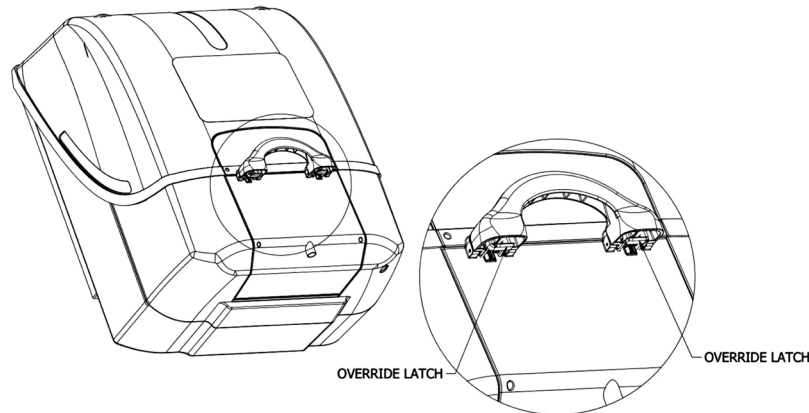
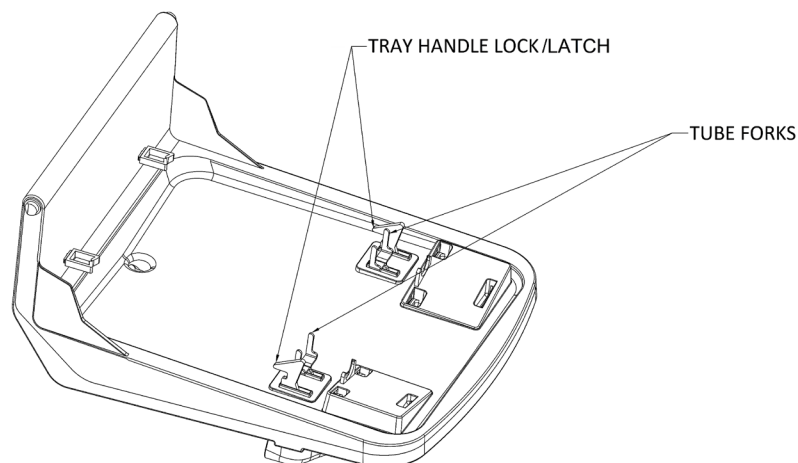

FIGURE 18
FIGURE 19
- B. To inspect Tray Assembly utilizing Supervisory Override Latch. Override Latches are located on underside of handle (**Ref Figure 18**). Both latches must be depressed to allow tray to open.
- A. With the tray open, carefully remove nozzle assembly (**Ref. Step 7-D**) and inspect area, including tray forks and tray handle locks (**Ref. Figure 19**) for any deformities or corrosion.
- B. With the tray open and nozzles removed, Function test tray handle lock/latch by pressing the override lock/latch (**Ref Figure 18**), and operating the locks, tray handle lock/latches should move back and forth smoothly in their slots (**Ref Figure 19**).